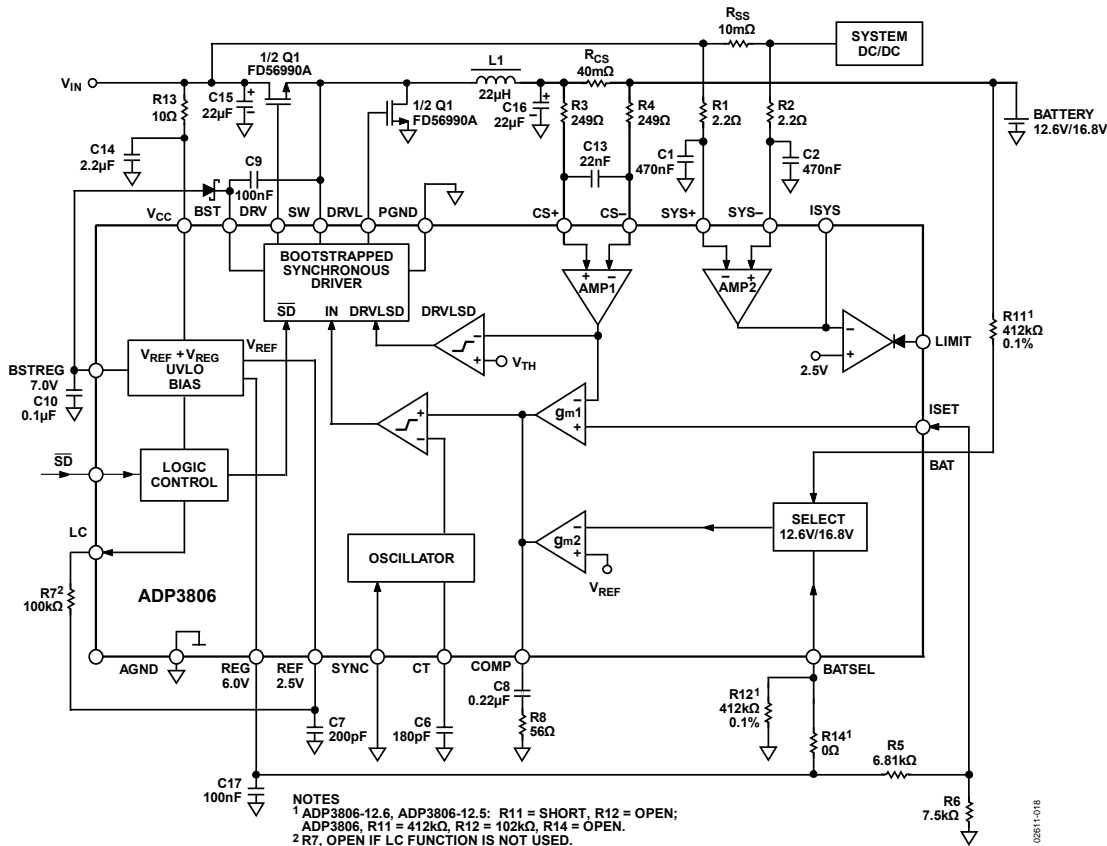

Figure 18. Typical Application
AMP1 in Figure 18 has a differential input to amplify the voltage drop across an external sense resistor R_{CS} . The input common-mode range is from ground to V_{CC} , allowing current control in short-circuit and low dropout conditions. The gain of AMP1 is internally set to 25 V/V for low voltage drop across the sense resistor. During constant current (CC) mode, g_{m1} forces the voltage at the output of AMP1 to be equal to the external voltage at the ISET pin. By choosing R_{CS} and V_{ISET} appropriately, a wide range of charge currents can be programmed.
Refer to Figure 18, the typical application circuit, for the following description. The design follows that of a buck converter. With Li-Ion cells, it is important to have a regulator with accurate output voltage control.